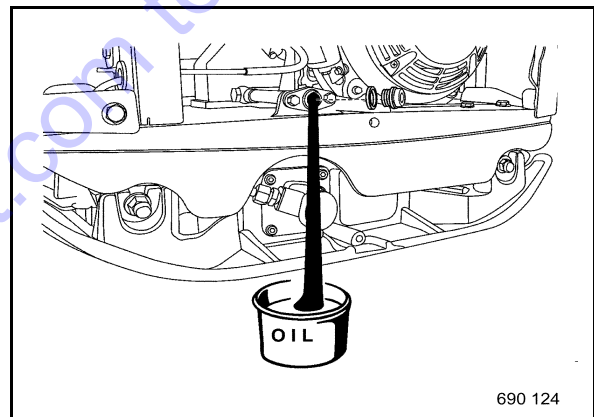

Fig. 45
- Unscrew the oil drain plug and catch running out old oil (Fig. 45).